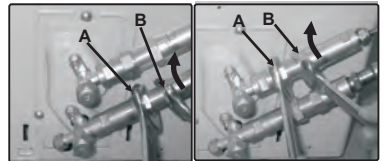

Fig.23
4. Now tighten the bottom screw connector first and then the top screw connector using the open-ended spanner. Hold the points marked “A” using a 22mm/0.87in open-ended spanner and turn the nuts only at the points marked “B” using a 24mm/0.95in open-ended spanner, see Fig.23.